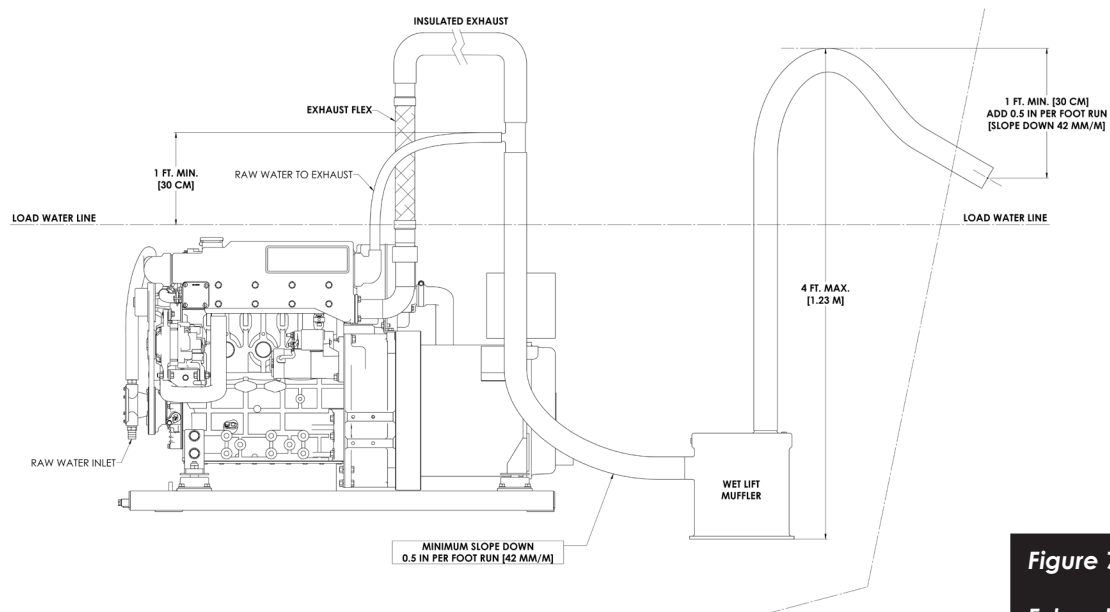

Figure 7:
8. Four feet is the maximum vertical lift between the waterlift muffler and the top of the exhaust loop. Otherwise, the muffler will not be able to evacuate the water fast enough to keep it from backing up into the engine. If your generator sits so low that the muffler will have to be raised above the exhaust manifold to comply with the four foot maximum vertical lift rule, plumb your system according to Fig. 7.